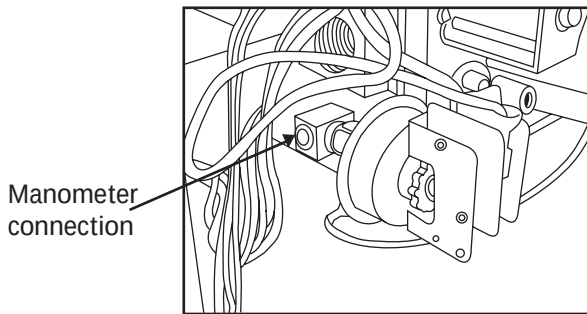

**Fig. 12 - LGPS Installed**
5. Apply pipe dope sparingly to male end of brass tee. Install propane low gas pressure switch (provided in kit) on male end of the female x female x male tee. Tighten switch finger tight. Use a small open-end wrench on base of pressure switch for final tightening. (See Fig. 12.)